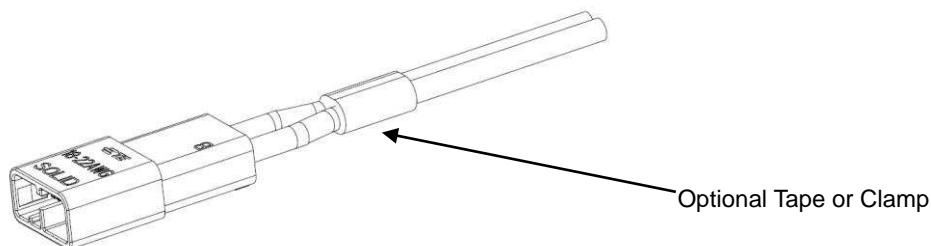

Figure 6
5. Apply optional approved flammability rated tape or clamp to organize the wire. See Figure 6.